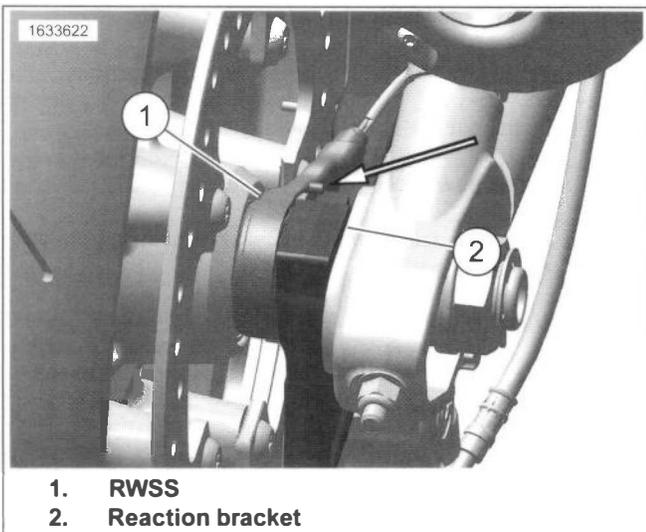

Figure 3-7. Rear WSS Orientation
- b. Position rear wheel (9) between rear fork.
- c. Install rear axle through axle adjuster (8), left leg of rear fork, and spacer (2).
- e. See Figure 3-7. Rotate WSS to position shown. Verify wire harness is routed correctly.